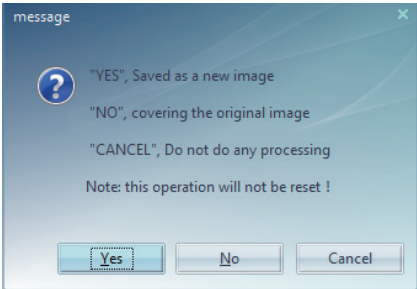

Fig 6-23
- 6.7.4 Save: Click the <Save> button, a message box will pop up (see Figure 6-23), and the user will follow the prompts as need.